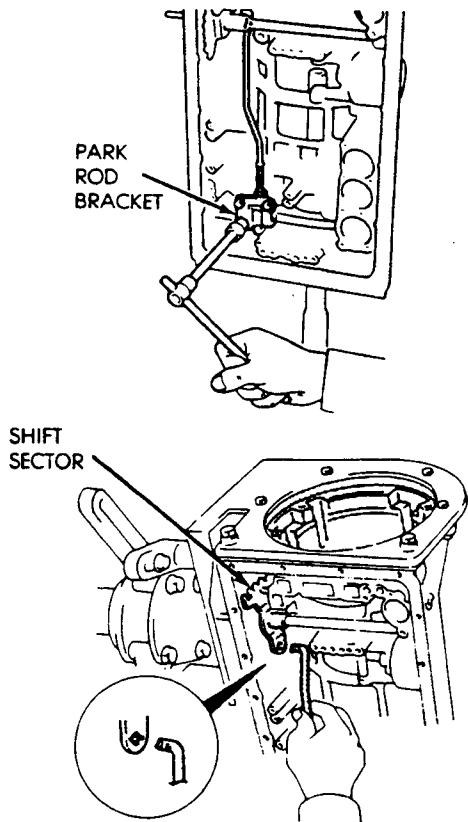

Fig. 42 Removing Park Rod And Bracket
(51) Remove bolts attaching park rod bracket to case. Then disconnect park rod from manual shaft lever and remove rod and bracket (Fig. 42).